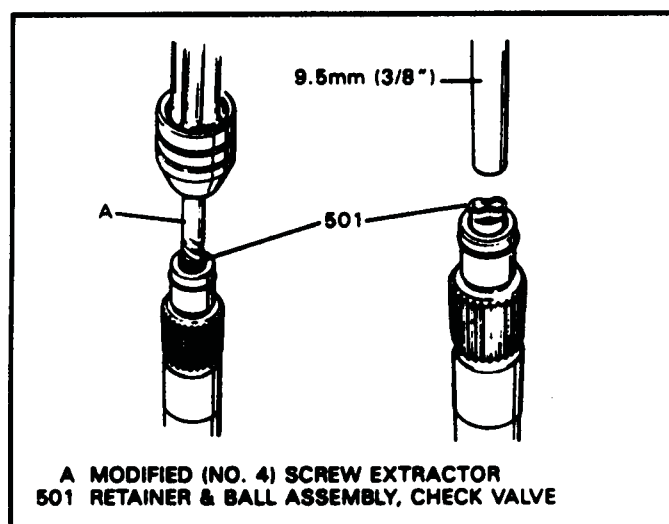

Figure 115
6. If replacement of the ball capsule is necessary, refer to Figure 115 for procedure.